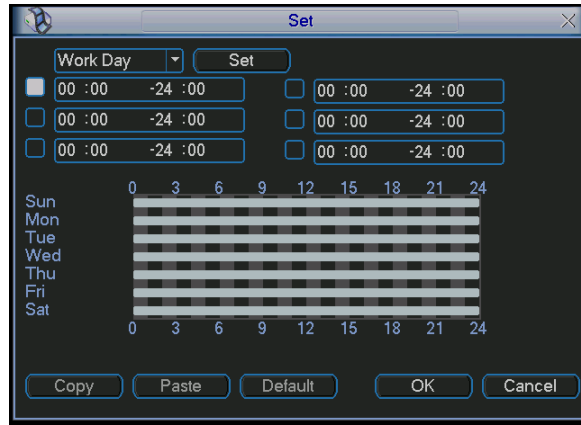
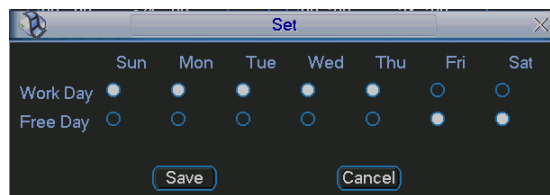

Figure 4-21
Figure 4-22
- Period: Click set button, you can see an interface is shown as in Figure 4-21. Here you can set for business day and non-business day. In Figure 4-21, click set button, you can see an interface is shown as in Figure 4-22. Here you can set your own setup for business day and non-business day.